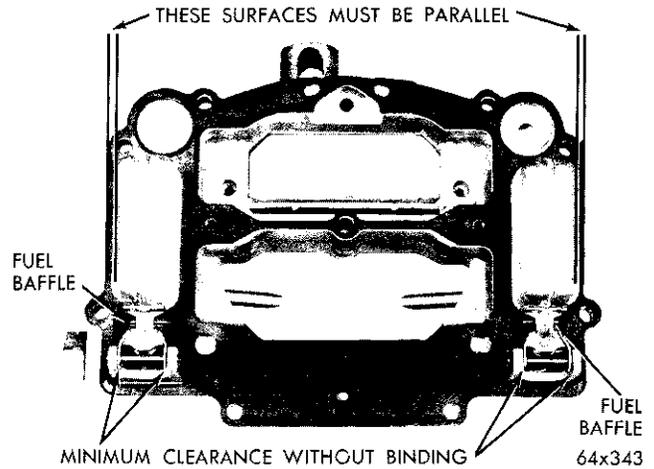

Fig. 9—Checking Float Alignment
(1) Sight down the side of each float shell to determine if the side of the float is parallel to the outer edge of the air horn casting, as shown in (Fig. 9).
(2) If the sides of the float are not in alignment